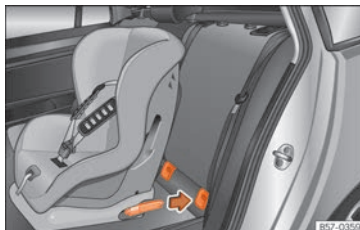

**Fig. 30** Rear seats: fitting a child seat with the ISOFIX system.
- Press the child seat onto the "ISOFIX" retaining rings until the child seat can be heard to engage securely »» Fig. 30. If the child seat is equipped with Top Tether anchor points, secure it to the correspondent ring »» page 35. Observe the manufacturer's instructions.